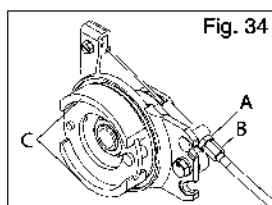

Fig. 34
CAUTION: When stowing or transporting your wheelchair with the drum brakes removed, take care not to damage the exposed brake pads which can cause damage to your chair and affect the proper operation of the drum brakes (Fig. 34:C).
- Using a 10mm wrench, unlock the jam nut (Fig. 34:A) on adjuster (Fig. 34:B). Unthread adjuster to get tighter braking action or thread adjuster in to reduce the braking action.